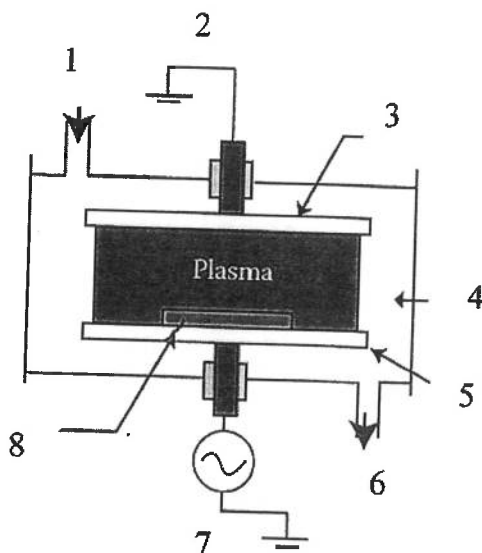

Figure 3
- (b) Figure 3 below illustrates a Reactive Ion Etching (RIE) system. Identify places numbered 1 through 8 and explain how the etching is done.